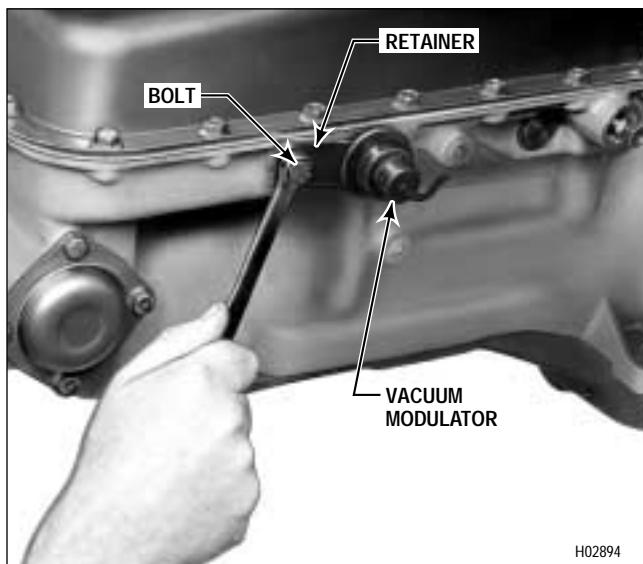

Figure 7-38. Installing Vacuum Modulator Retainer Bolt
(3) Rotate the vacuum modulator until the hose nipple faces ten degrees downward (toward bottom of transmission) and directly forward (Figure 7-38).
(4) Install the modulator retainer, bent tabs toward transmission, and secure it with a  $5/16$ - $18 \times 3/4$  inch bolt (Figure 7-38). Tighten the bolt to 10–16 lb ft (14–22 N·m).